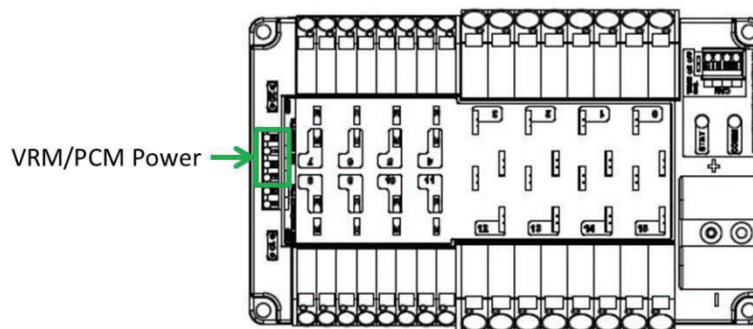

Figure 10-12 VRM and PCM power source
- R55.** The VRM supplying power to the Wireless Bridge per R54 must be connected to the designated supply terminals at the end of the PDP, and not the main WAGO connectors along the sides of the PDP as shown in Figure 10-12. With the exception of a single CTR Electronics Pneumatics Control Module (PCM, P/N: am-2858), no other electrical load shall be connected to these PDP terminals.